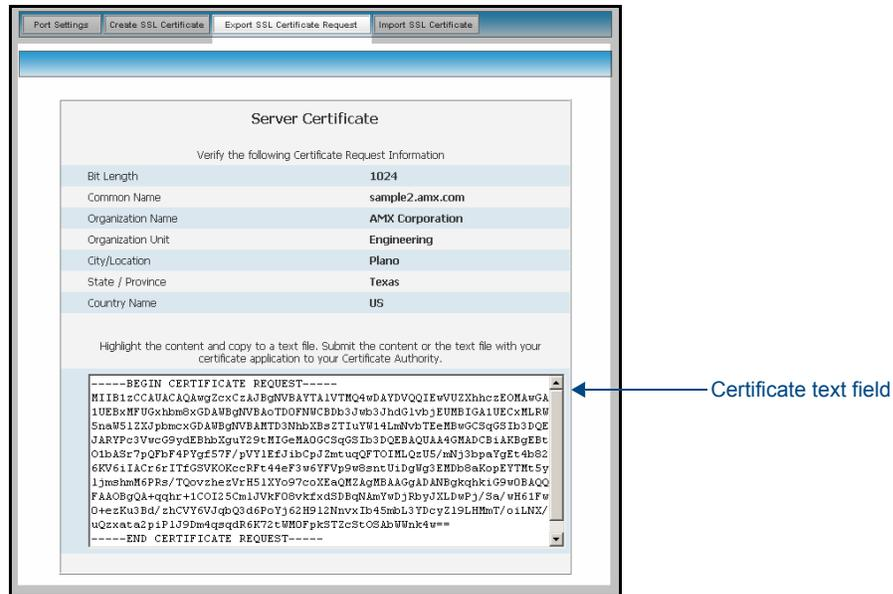

FIG. 52 Export SSL Certificate dialog
2. Click the **Export Certificate Request** button to display the certificate text file within the Server Certificate page (FIG. 52).